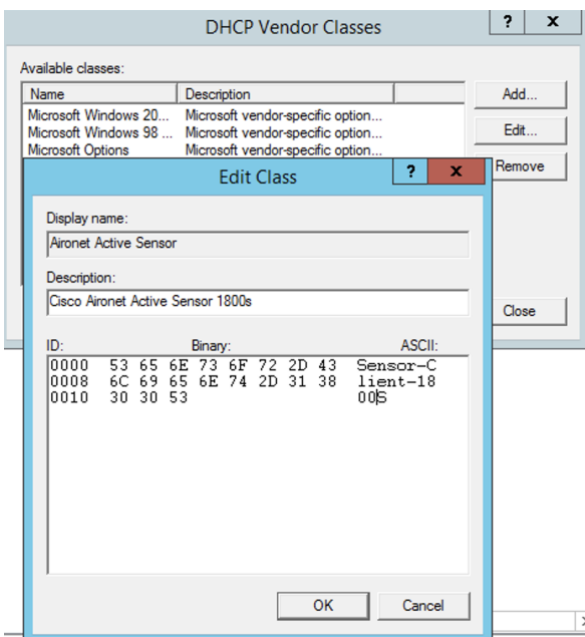

Figure 24.
3. Click on **Add**, enter the following, then click **OK**, then **Close (Figure 24).**